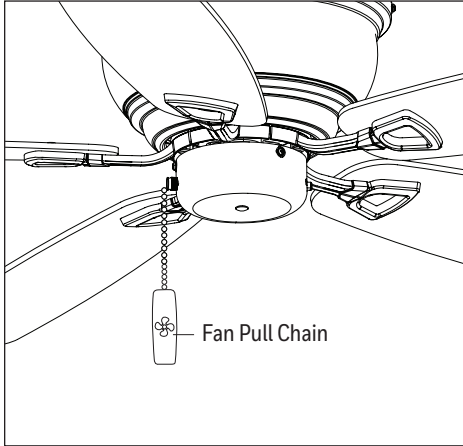

Figure 3.1
1. The fan pull chain has five positions to control fan speed. One pull is high, two is medium, three is low, four is very low and five turns the fan off (Figure 3.1).